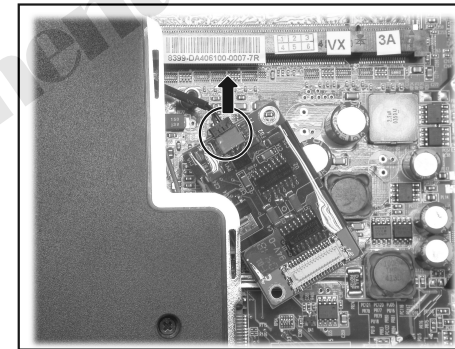

Figure 2-12 Disconnect the cable
3. Disconnect the cable from the system board, Then free the modem card. (Figure 2-12)